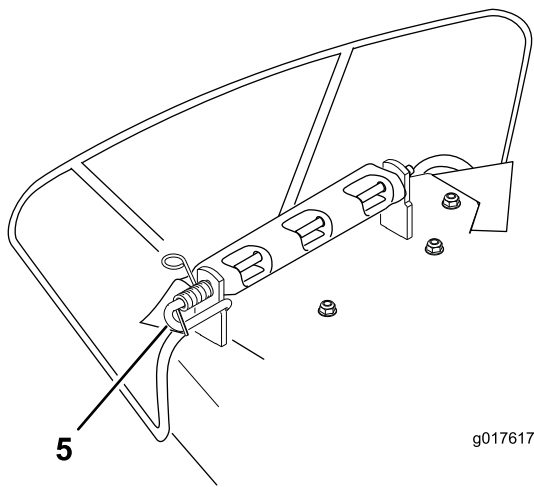

Figure 59
- Secure the rod and spring assembly by twisting it so the short end of the rod can be placed behind the front bracket welded to the deck (Figure 59).
- Lift the loop end of the spring and place it into the notch on the deflector bracket (Figure 59).